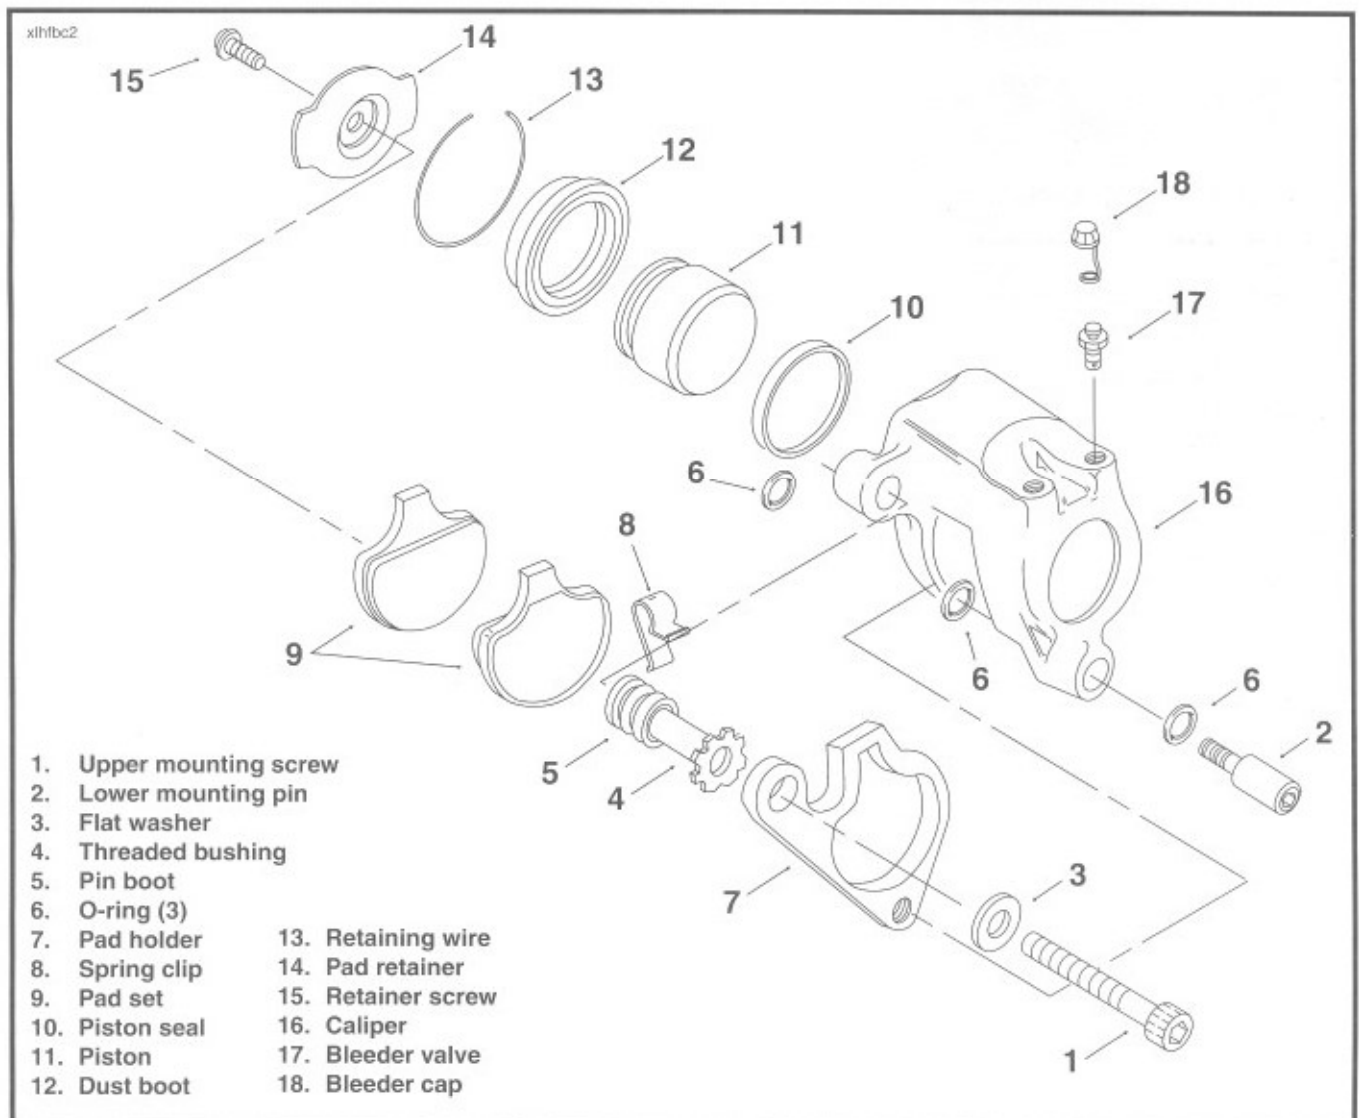
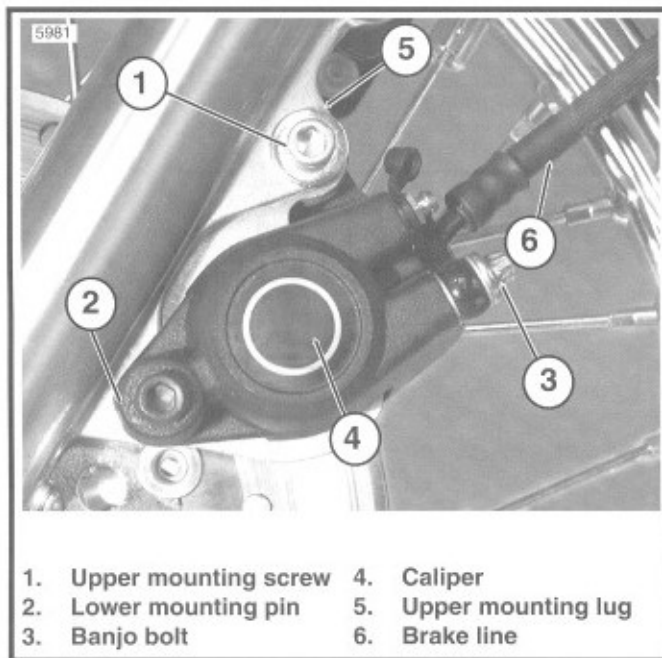

Figure 2-50. Front Brake Caliper
Figure 2-52. Front Brake Caliper Mounting
### (Figure 2-50)
## CLEANING, INSPECTION AND REPAIR (Figure 2-50)
1. See Figure 2-50. Install **new** seal (10) in groove of caliper piston bore (16). Install **new** O-ring (6) in groove of threaded bushing bore. Install **new** O-rings (6) in each groove of lower mounting pin bore. Apply DOW CORNING 44 GREASE (tube marked "PIN LUBE" in service parts kit) to interior cavity of pin boot (5). Insert flanged end of pin boot in groove of threaded bushing bore.
2. Install dust boot (12), with its concave side facing piston (11), over top of piston. Seat the inner lip of dust boot in groove at top of piston.
3. Apply light coat of NovaGard silicone grease (marked "PISTON LUBE" in service parts kit) to piston O.D., including chamfer. Apply a light coat to caliper piston bore (16) and I.D. of installed piston seal (10). Install piston (with dust boot) into caliper piston bore. Use a "C" clamp to press in piston, if necessary.
7. See Figure 2-50 and 2-51. Lay down pad holder (7) on a firm flat surface with upper mounting screw (threaded bushing) hole positioned at the upper right.
8. Hook lip on looped end of clip (8) under inside edge of pad holder at top. Holding pad holder down, raise clip to snap in place on pad holder. Pick up pad holder to verify that clip is firmly attached. Lay pad holder back down in the same orientation.
9. With black insulator backing facing pad holder, center outboard pad (9) within pad holder. In this position, tang of pad rests on clip loop while bottom of pad slightly enters opening of pad holder. Push down on tang until pad lies flat. Pick up pad holder to verify that pad is firmly attached. One lip on clip should be caught on pad holder, the other on tang of pad.
- See Figure 2-50. Insert the assembly (outboard pad, pad holder and spring clip) into place on caliper (16) with insulator side of pad against face of piston (11).
- See Figure 2-50. Apply light coat of DOW CORNING 44 GREASE (marked "PIN LUBE" in service parts kit) to O.D. of lower mounting pin (2).
- See Figure 2-52. Position caliper (4) so that brake disc is situated between friction pads and lower mounting hole in caliper is aligned with lower mounting lug on front fork.
- See Figure 2-50. Insert lower mounting pin (2) through caliper (16) and front fork lower mounting lug. Thread pin into tapped hole at lower end of pad holder (7). Tighten pin to 25-30 **ft-lbs** (34-41 Nm) torque.
- Install upper mounting screw (1) with spacer washer (3) through front fork upper mounting lug and pad holder (7). Thread the screw into threaded bushing (4). Tighten screw to 25-30 **ft-lbs** (34-41 Nm) torque.
- Install bleeder valve (17) and valve cap (18), if removed. Tighten valve to 80-100 **in-lbs** (9.0-11.3 Nm) torque.
- See Figure 2-52. Connect brake line (6) to caliper using **new** steel/rubber banjo washers. Tighten banjo fitting bolt (3) to 17-22 **ft-lbs** (23-30 Nm) torque.